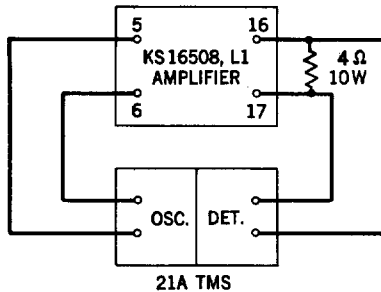

Fig. 5 - Gain-Frequency Test Setup for Record Channel
6.01 The test setup for measuring the record channel of the amplifier is shown in Fig. 5. Chart IV outlines the step procedure to be followed when making this test. The oscillator output in Step 7 of the procedure, for instance, is measured to insure that the amplifier will provide proper output with minimum input requirement. The procedure will vary somewhat depending on the testing equipment used.
2	Connect circuit as shown in Fig. 5.